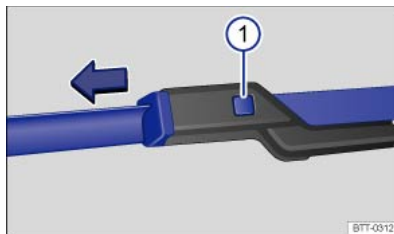

Fig. 202 Changing the windscreen wiper blades.
- Press and hold the release button ⇒ *Fig. 202*  and simultaneously pull off the wiper blade in the direction of the arrow.